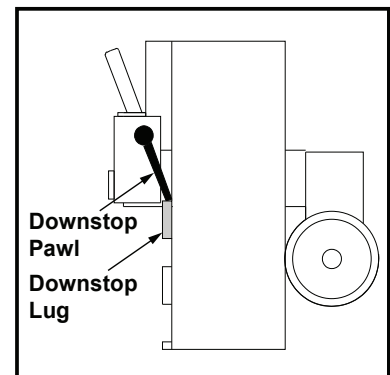

Figure 6
2. Visually confirm that the downstop pawls are securely engaged on the downstop lugs of each lift and the raised axle is level (see Figure 6).